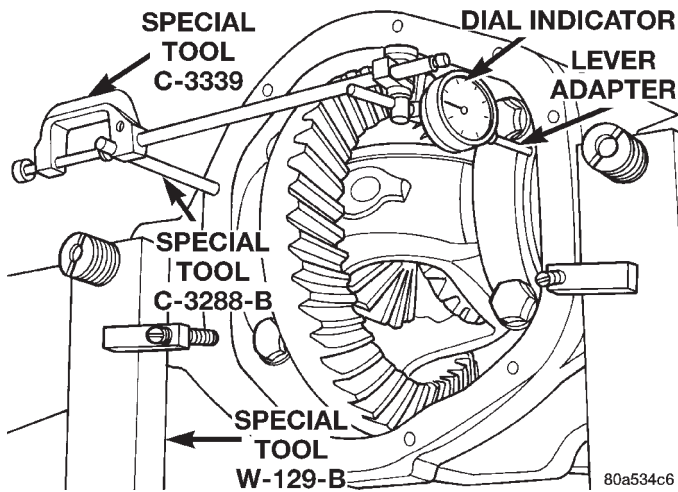

Fig. 25 Install Dial Indicator
(8) Install a Pilot Stud C-3288-B at the left side of the differential housing. Attach Dial Indicator C-3339 to pilot stud. Load the indicator plunger against the opposite side of the housing (Fig. 25) and zero the indicator.
- (2) Install a Pilot Stud C-3288-B at the left side of the differential housing. Attach Dial Indicator C-3339 to pilot stud. Load the indicator plunger against the opposite side of the housing (Fig. 25) and zero the indicator.